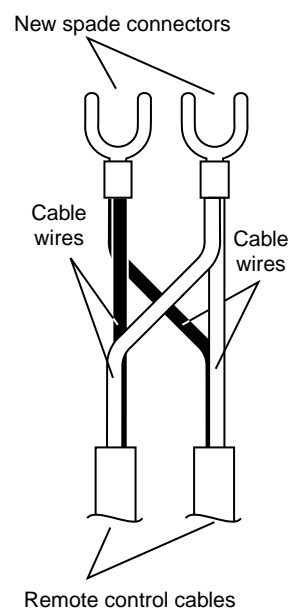

fig.3
3. Cut the spade connectors from all four controller cables to be connected to the appliance (8 connectors should be cut off) and discard. Connect the wires from two remotes and terminate into two new spade connectors as shown in fig. 3.